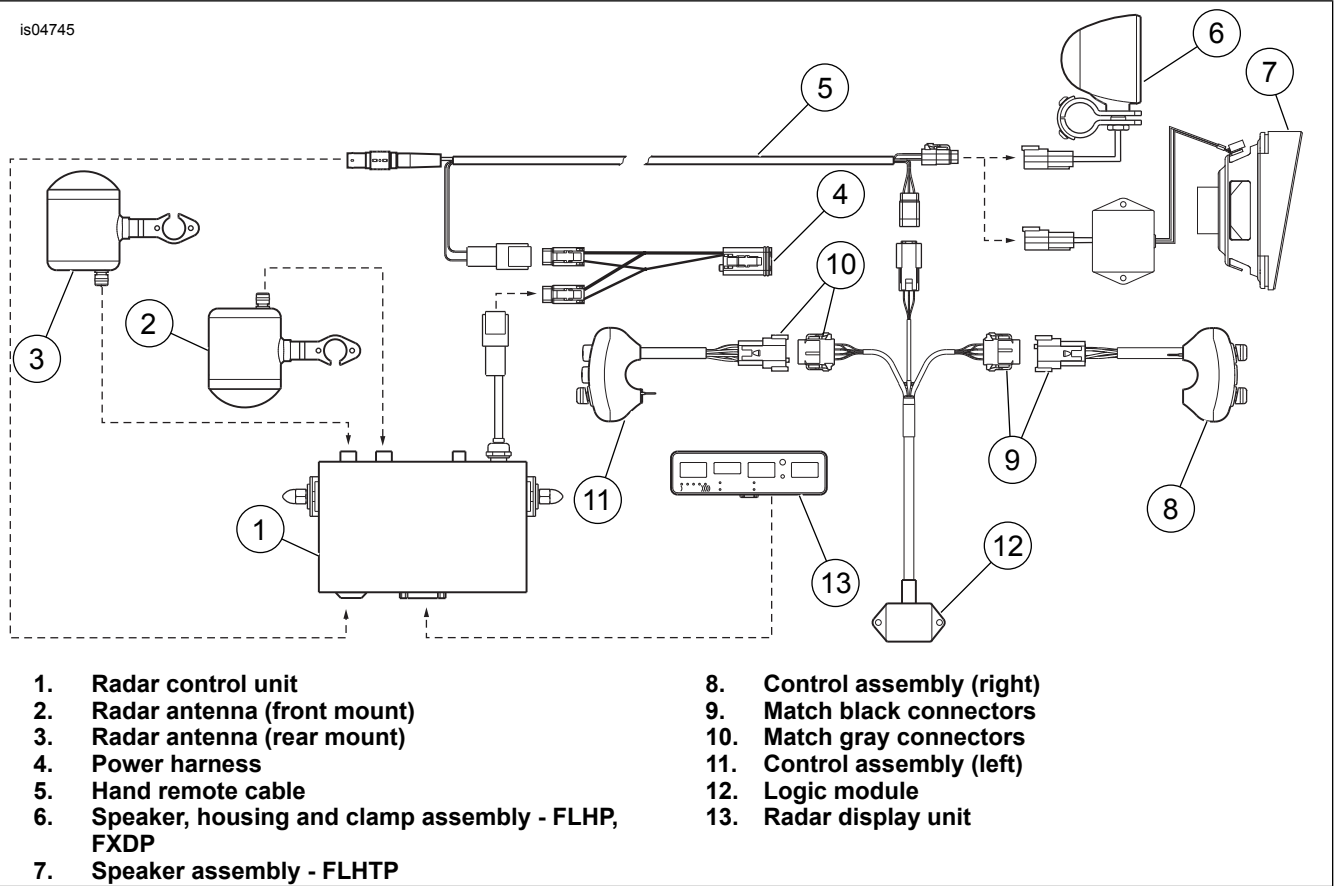

Figure 12. Integrated Radar System Diagram
5. Attach the harnesses to the handlebar as needed with cable ties (14) from the kit.
6. See Figure 12. Connect the 8-place Deutsch connectors from the handlebar radar switch-control housings to the logic module (12) connectors.
7. Match the gray module connector to the gray left side switch control connector (10), and the black module connector to the black right side switch control connector (9).
8. Connect the 3-place Deutsch connector coming from the hand remote cable (5) to the remaining logic module connector.
10. Obtain the power harness (4) from the radar system kit, and plug it into the police accessory connector [4A] under the seat.